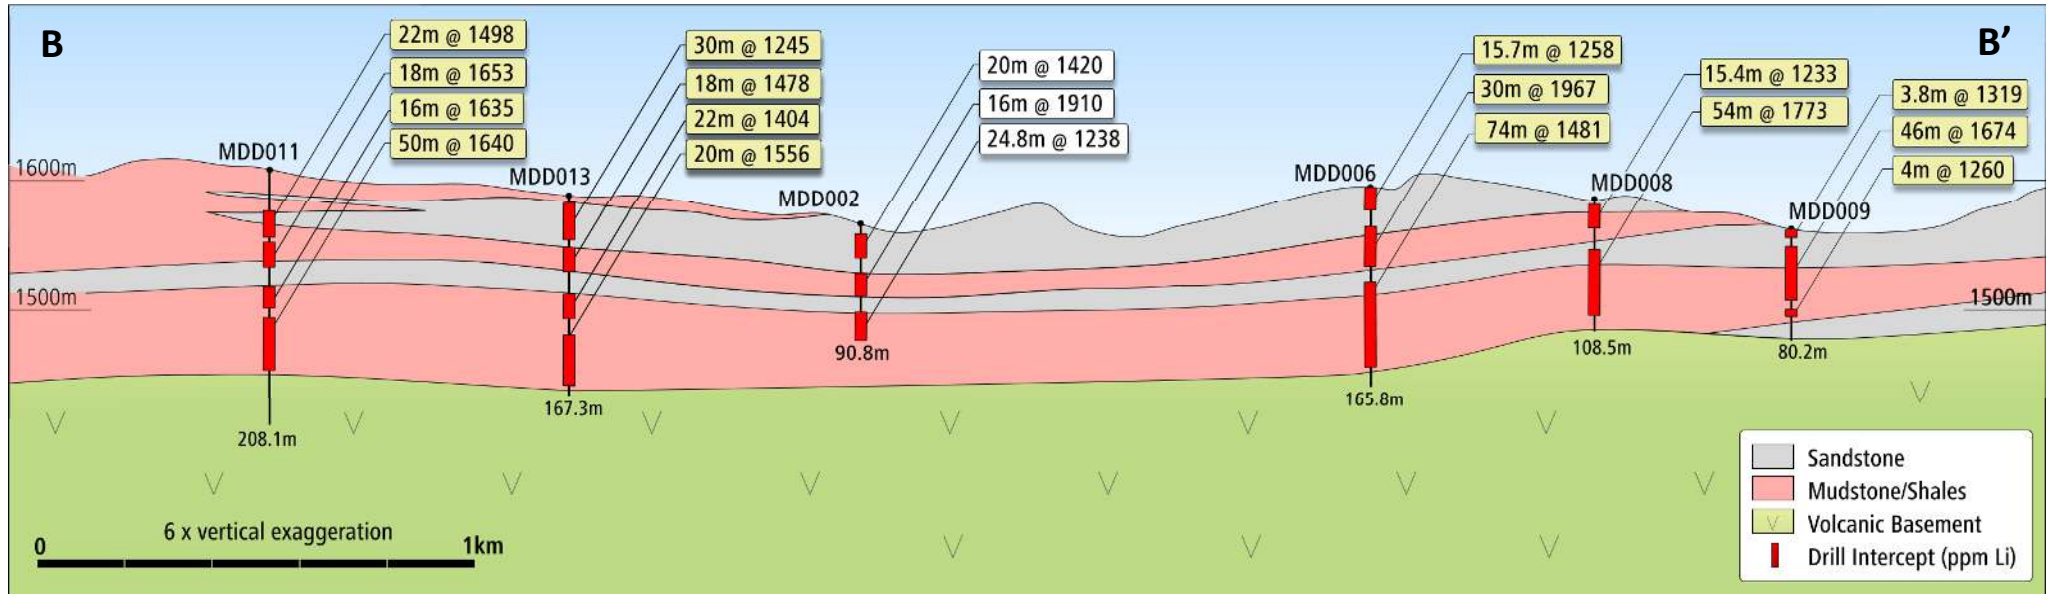

Figure 2 – Schematic cross section showing significant Lithium intercepts from the 2018 and 2019 drill programs.
- **MDD-013: 40m @ 1556 ppm Li, including 10m @ 2404 ppm Li** (Figure 1, Figure 2, Table 1)
The intercepts from holes MDD-011 and MDD-013 confirm lithium mineralisation extends more than a kilometre further west of the previous known extent in hole MDD-002 (Figure 1). The thickness of lithium mineralisation observed is also considerable (Figure 2). Once again, both the additional extent and thickness of the lithium mineralisation observed is positive for a significant increase in the existing Exploration Target Range of 160-780 Mt @ 1300-1600ppm Li¹.
Figure 1 – Summary of the thicker significant intercepts (Lithium ppm) from drilling at McDermitt. The location of the cross-section B-B' in Figure 2 is shown as the red dashed line.